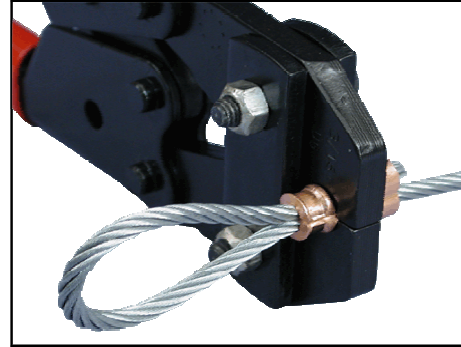

FIGURE 2
3. KEEP JAWS OF SWAGING TOOL AT RIGHT ANGLES TO THE SLEEVE TO BE COMPRESSED, MAKING SURE THE SLEEVE IS ALIGNED IN THE JAW GROOVES AS SHOWN IN FIGURE 2. CLOSE TOOL COMPLETELY. TOOL HANDLES SHOULD SNAP SHUT INDICATING COMPLETE CLOSURE.